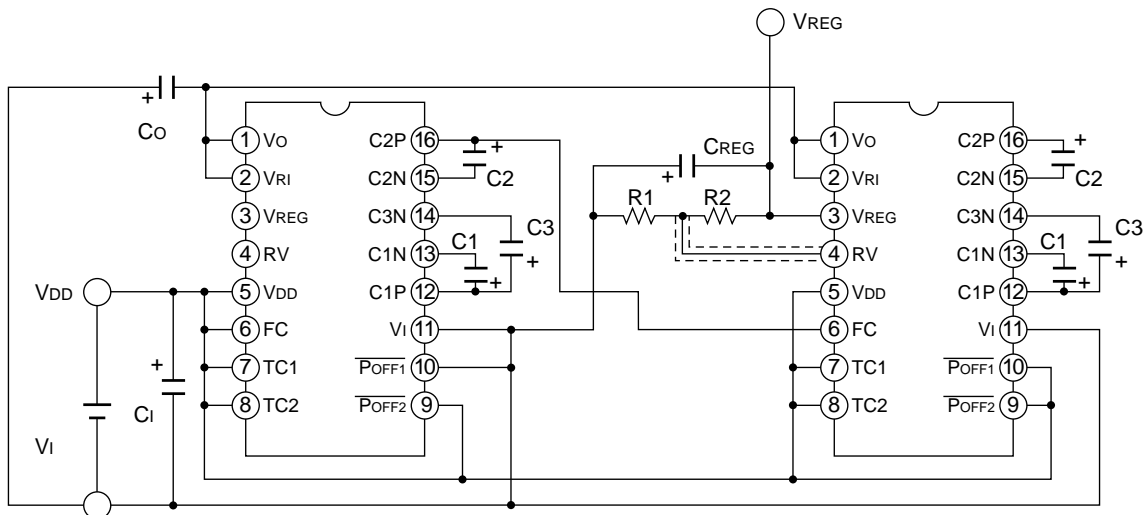

Figure 2.11 Parallel connection example
S1F76540 chips which are in parallel connection. (If multiple regulators are operated in parallel mode, the reactive current consumption occurs.) Figure 2.11 gives a wiring example of 4-time booster and regulator where two S1F76540s are parallelly connected.
◇ Setup conditions of Figure 2.11
- In Figure 2.11, when the $\overline{POFF2}$ pin of the first-stage S1F76540 is set to low (V_I), voltage boosting is stopped at the first and second stages. However, the regulator at the second stage does not stop. Therefore, the voltage that is approximately V_I appears at V_{REG} pin during $|V_{REG}| > |V_I|$ setup.